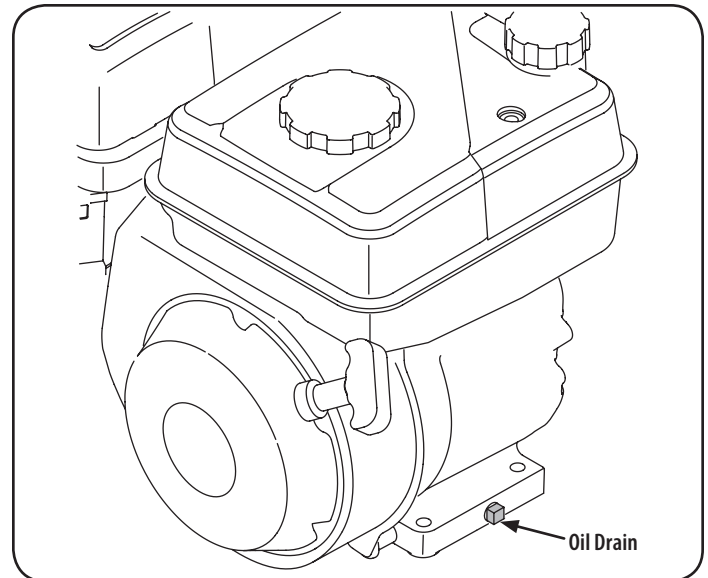

Figure 26
3. Remove oil drain end cap located at the base of the engine, and drain oil into an appropriate receptacle. See Figure 26.